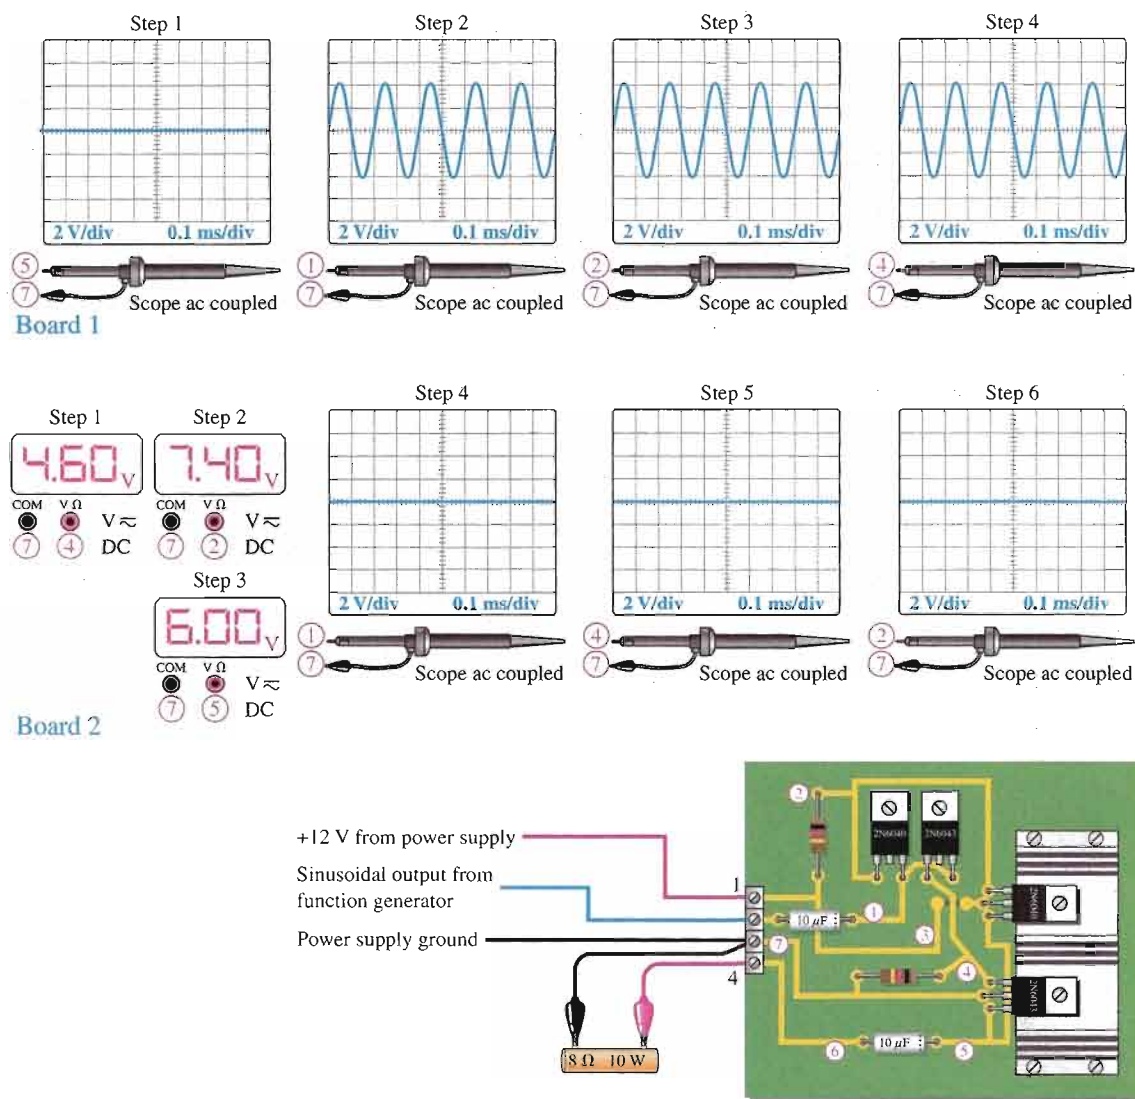

FIGURE 9-40
- Make sure that the interconnecting wiring in Figure 9-40 on page 462 is correct and produce a complete schematic for the system.
bench measurements for each board indicated in Figure 9-40, determine the most likely fault in each case. The circled numbers indicate test point connections to the circuit board.